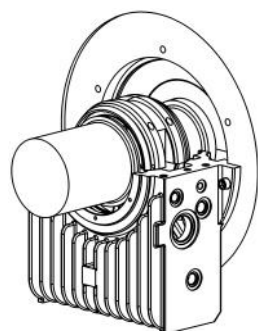

Fig. 20
- Place the lower part of the bearing shell (7) on the shaft seat (Fig. 20) and turn it to the correct position (Fig. 21) in the lower part of the housing (1), taking care to ensure that the thrust bearing surfaces are not damaged when the shell is turned.